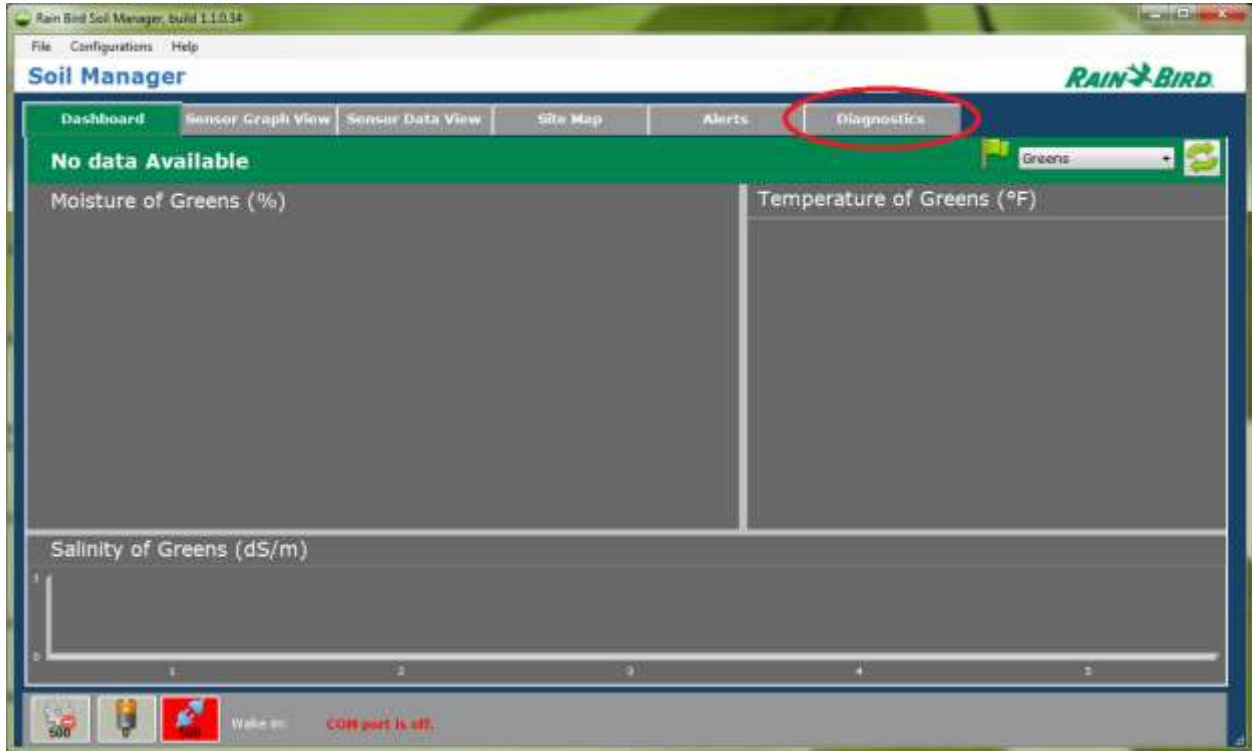
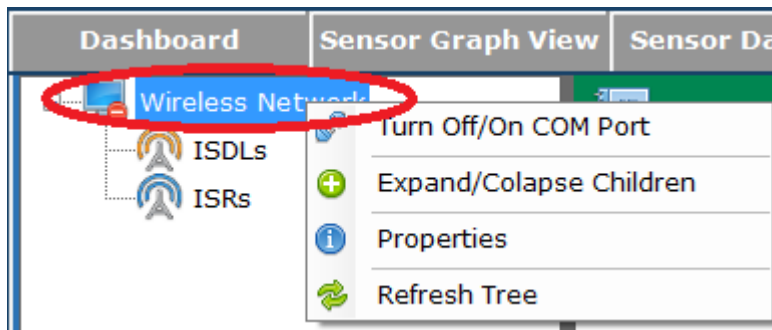
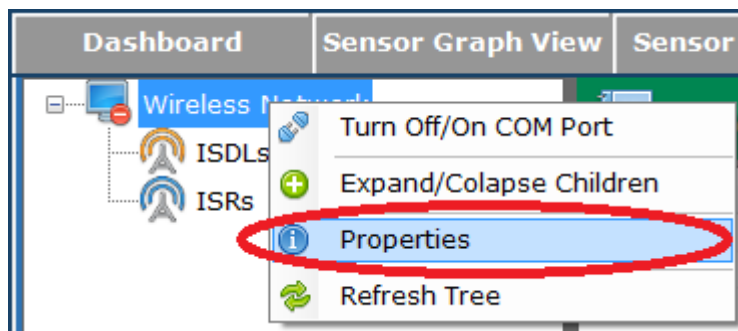

Figure 18
Figure 19
Figure 20
15. The next step is to update the Gateway COM Port information in the **Wireless Properties** window of Soil Manager to ensure successful communication. With Soil Manager Dashboard open, click on the **Diagnostics** tab (Figure 18) on the top right corner, then right click on **Wireless Network** (Figure 19), then click on **Properties** (Figure 20).